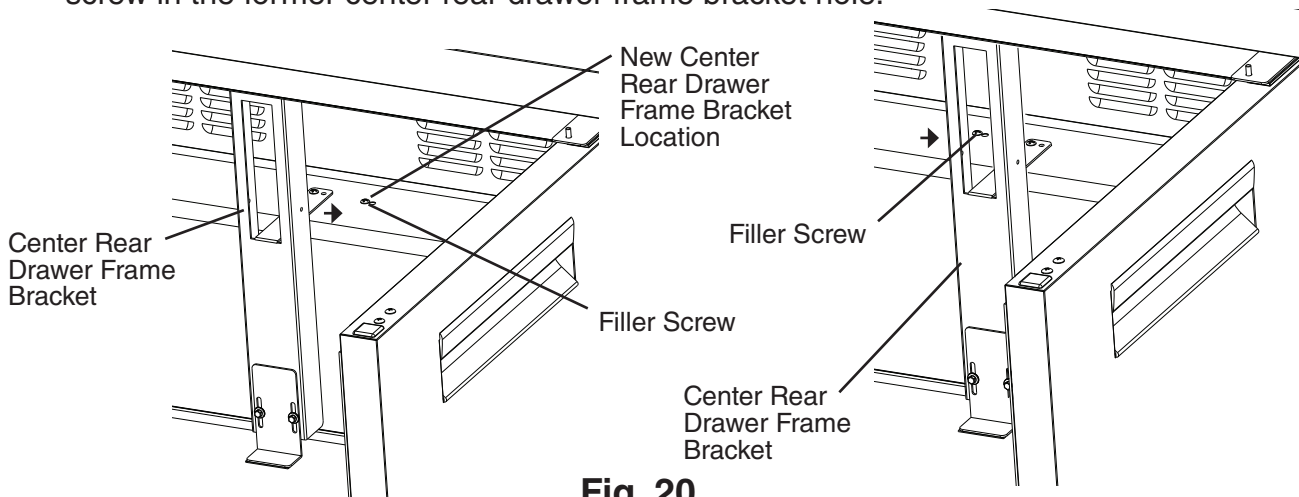

Fig. 20
- 6) Remove the center rear drawer frame bracket and the filler screw. See Fig. 20. Slide the center rear drawer frame bracket over to the new location and secure it. Place the filler screw in the former center rear drawer frame bracket hole.